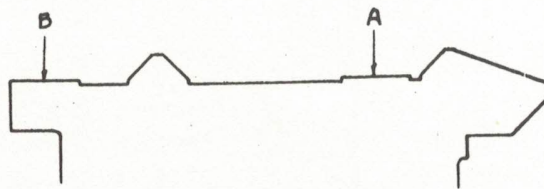

Fig. 3. Lathe Bed Outline
After the lathe has been thoroughly cleaned, place the precision level on way marked (A) Fig. 3, and by adjusting the jack screws see that the bed is approximately level longitudinally.
Check the transverse level of the bed at the head end. First, by placing the size blocks at (A) and (B) Fig. 3 and supporting the precision level on these blocks. This end of the bed is leveled by placing shims in the necessary places and then securely fastened.